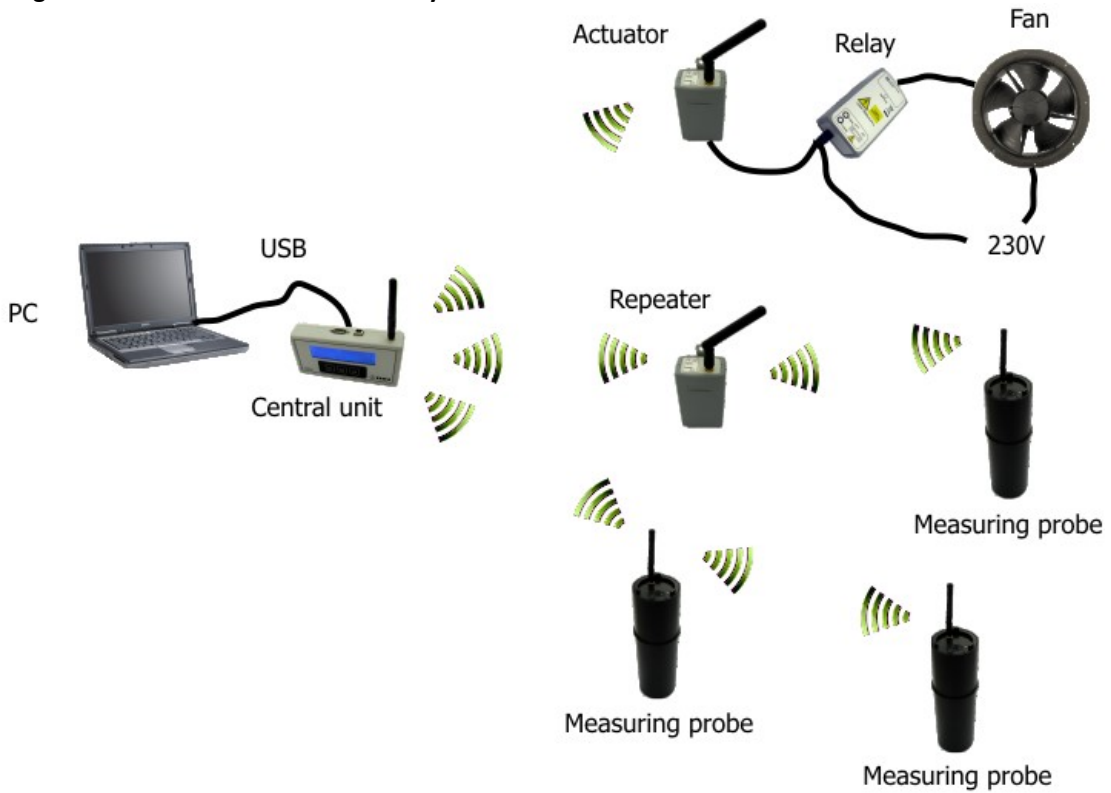

Figure 2 - TCR3 Central Unit in TERA System for Regulating Radon Concentrations
- B) TERA System for Regulating Radon Concentrations (Figure 2)